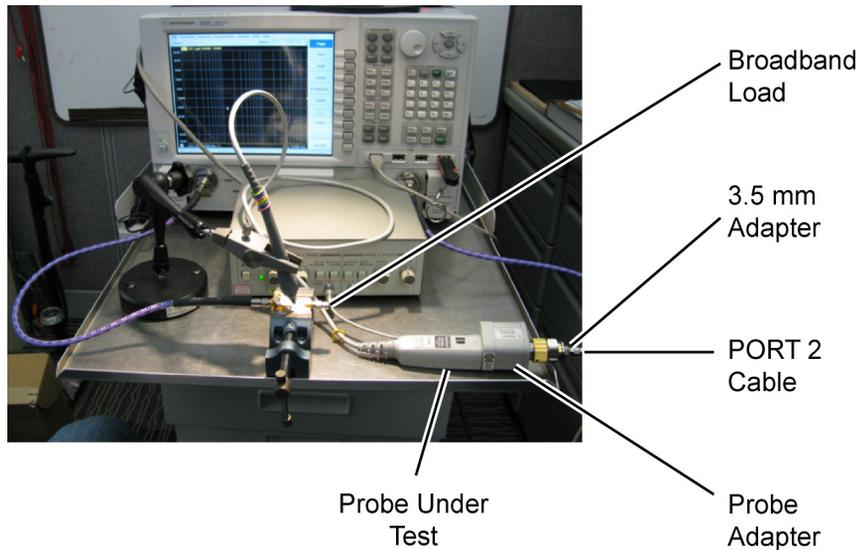

Figure 49 Measurement Setup for  $V_{out}$
- 20** Disconnect the **PORT 2** cable from output of the PV fixture and connect the cable to the output of the probe adapter as shown in **Figure 49** on page 70.